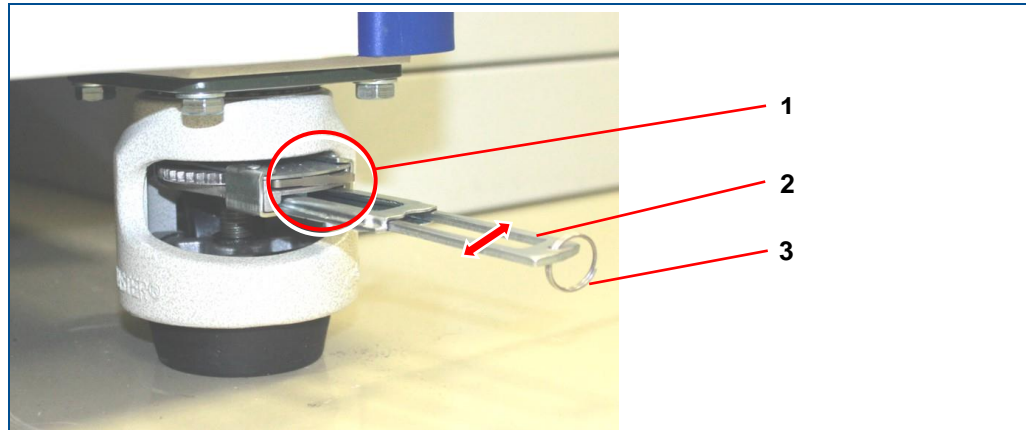

Fig. 18: Leveling foot
21. Remove the side transport supports (2).
22. Push all rocker switches (1) (see figure 18) **to the left** to raise the leveling feet and thus unlock the leveling feet.
23. Adjust all leveling feet using the adjustment levers (3) (see figure 18) until the system stands on all four wheels.
24. Push the adjustment levers (2) (see figure 18) back into their resting positions.